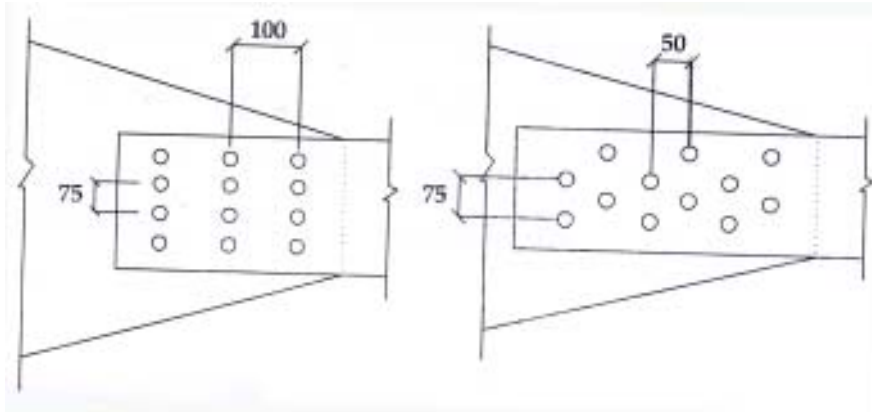

Fig.2 (b)
b) Zigzag connection is done as shown in Fig .2 (b)